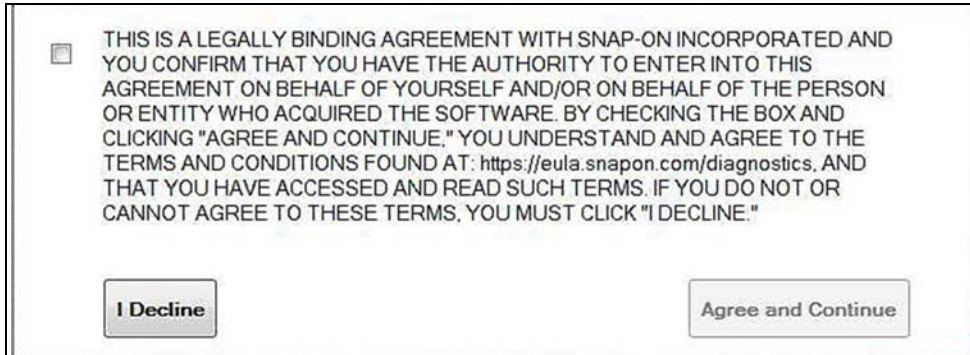
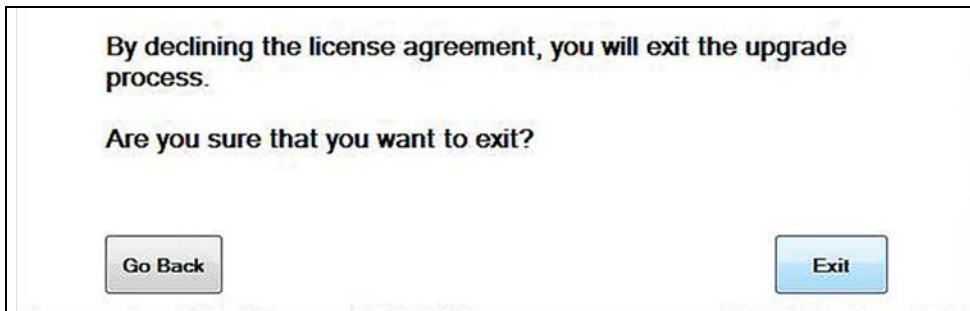

Figure 18-14 Typical EULA acceptance screen
Figure 18-15 Typical EULA acceptance screen
**To Accept:** at the screen prompt (*Figure 18-14*) click the checkbox on the left side of the window, and then select **Agree and Continue**. The software will be installed automatically.
Figure 18-14 below represents a typical EULA acceptance screen.
**To Decline:** at the screen prompt (Figure 18-14) select **I Decline**. A confirmation message is displayed providing options to Go Back or Exit the software installation (Figure 18-15).